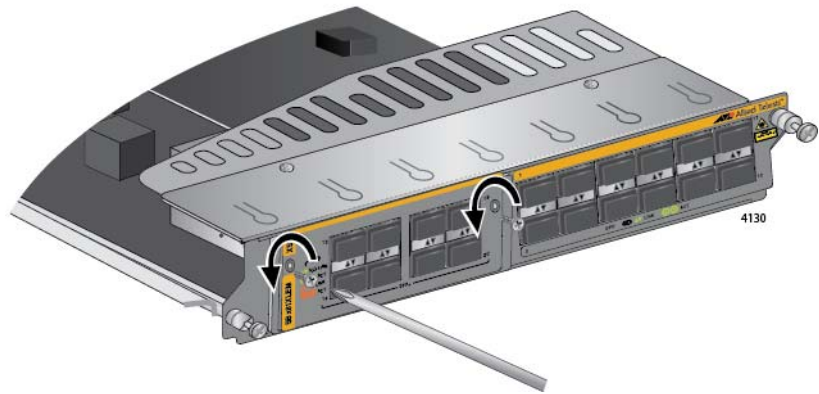

Figure 181. Removing the Screws from the Expansion Module
3. With a Phillips-head screwdriver, remove the two screws that secure the expansion module to the line card. Refer to Figure 181 on page 287.